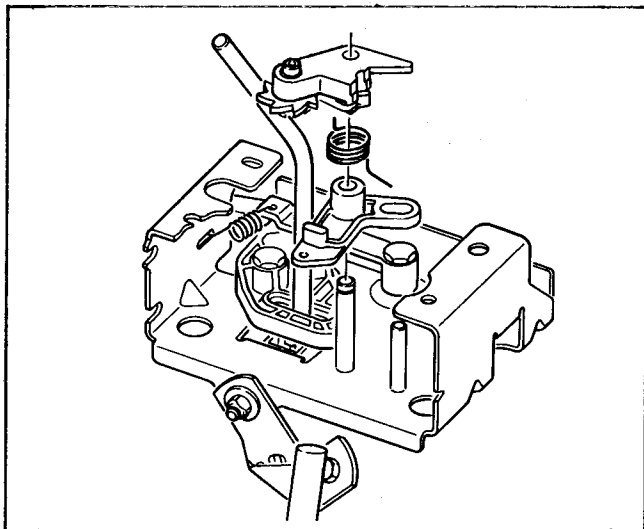
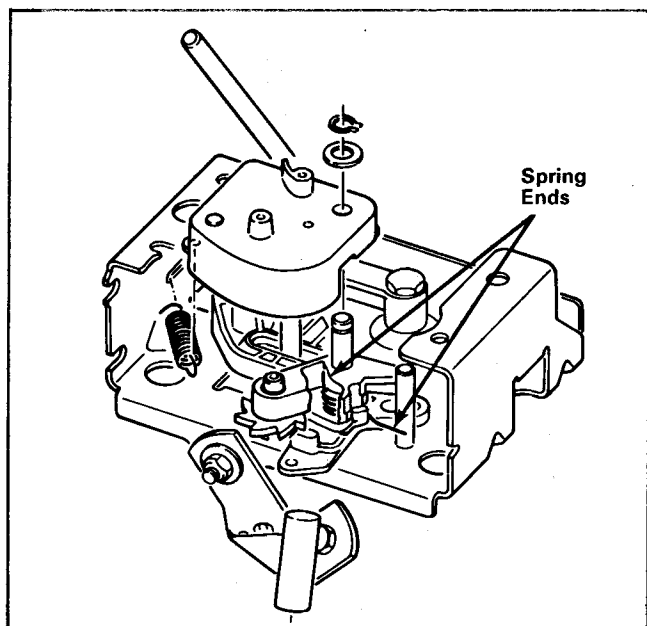

Figure 37
Figure 38
7. Slip the reverse bellcrank and torsion spring onto the stud as shown in Figure 37. Slide the index wheel lever assembly onto the stud. Make sure that the ends of the torsion spring are in the positions shown in Figure 38.
8. Install the latch lever and spring into the position shown in Figure 38. Once installed, rotate the latch
lever back and forth to insure that the index wheel is rotating properly. Secure with the flat washer and snap ring. See Figure 38.